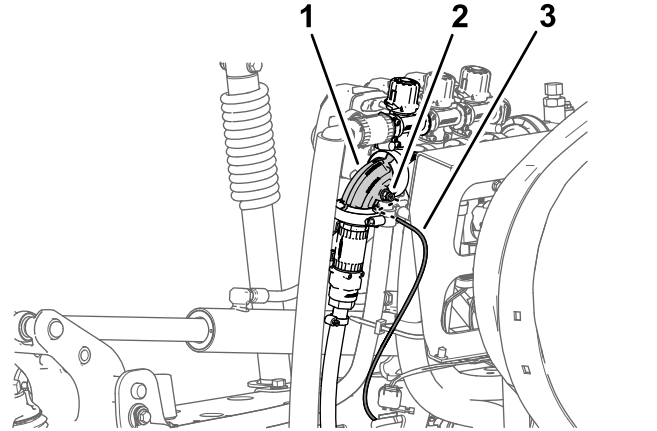

Figure 30
1. Press in the collar for the tube coupler in the 90° elbow of the right spray-section valve (Figure 30).
2. Pull the pressure-sense tube for the dash gauge out of the tube coupler (Figure 30).